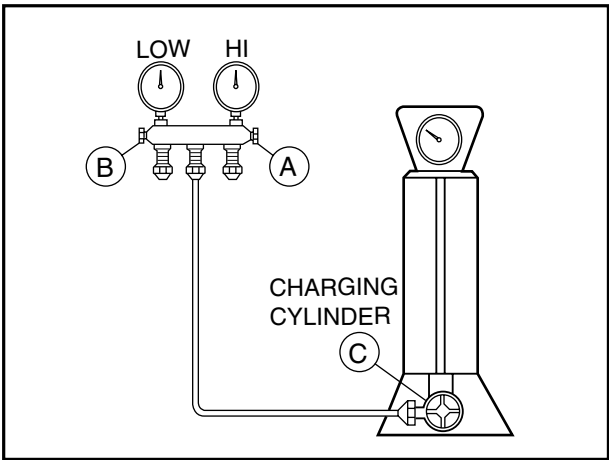

Figure 18B-Charging
- 4) Remove the hose from the vacuum pump and place it on the charging cylinder. See figure 18B.
- 2) Connect the charging cylinder as shown in figure 18B.